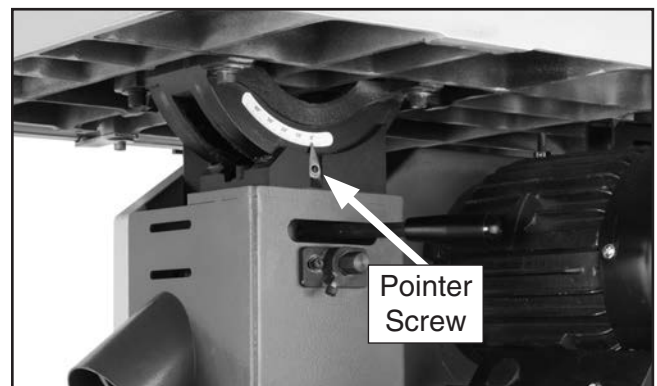

Figure 37. Table tilt pointer.
3. Loosen the screw on the table tilt scale pointer (see **Figure 37**), but do not remove it.